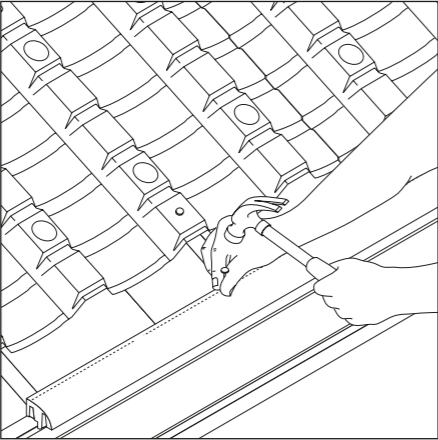

Fig 2
- 4 Nail to top of fascia or tilting fillet using 45mm x 3.35mm (10mm OFV) or 60mm x 3.35mm (25mm OFV) aluminium nails at every nail hole position (Fig 2).